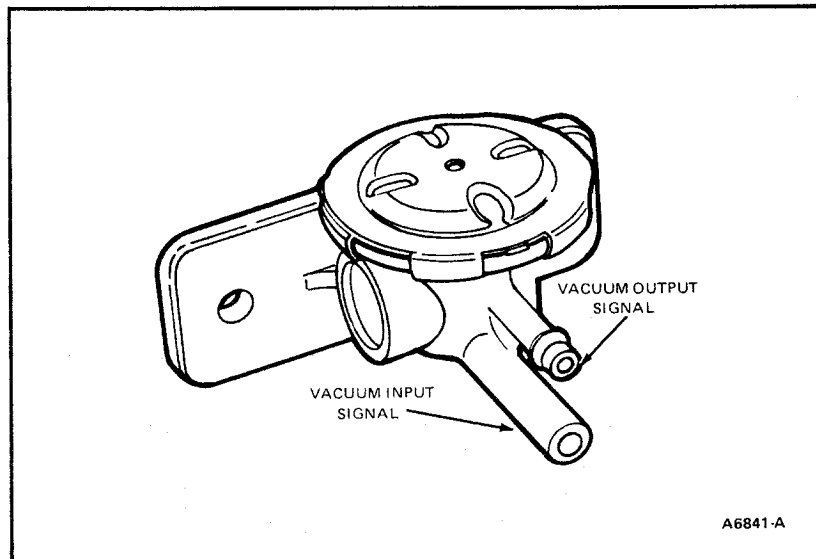

Figure 1 2-Port Vacuum Regulator
The two port vacuum regulator (Fig. 1) provides a constant output signal when the input signal is greater than a preset level. At a lower input vacuum, the output equals the input.
1. Remove vacuum line from the barbed output port (Fig. 1), and install a vacuum gauge.